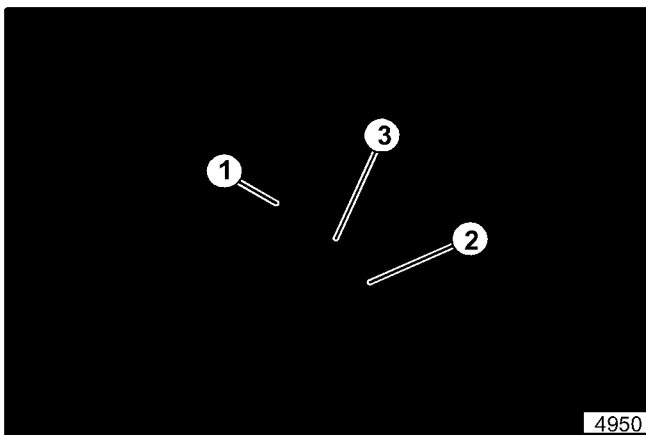

Figure 8. Clutch Cable Connected To Cam
15. Attach the other end of the cable to the cam on the back of the handle. Pass the threaded portion through the hole in the cam and secure it with two jam nuts (see figure 8).